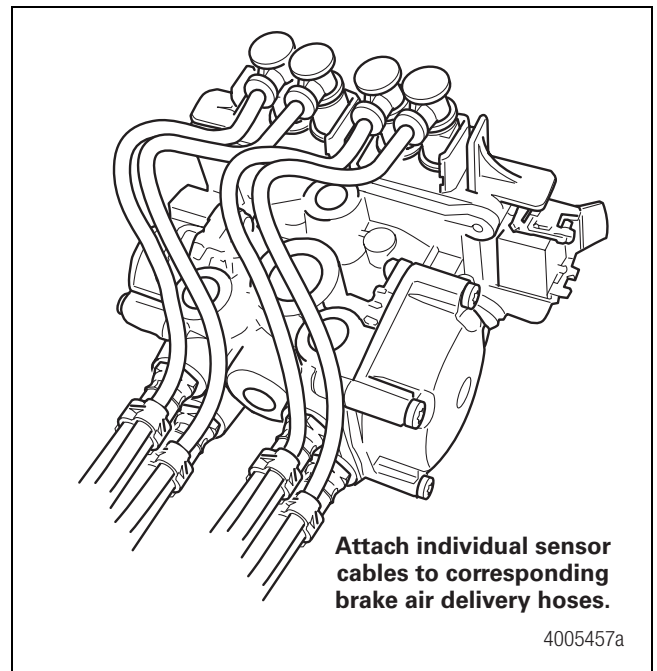

Figure 7
8. Create a strain relief to protect the sensor extension connector terminals. Without this strain relief, normal trailer jounce and vibration will cause the terminals to spread and loosen. Use a tie wrap or clip to secure the cable to the brake air delivery hose as close to the fitting as possible. Figure 7.